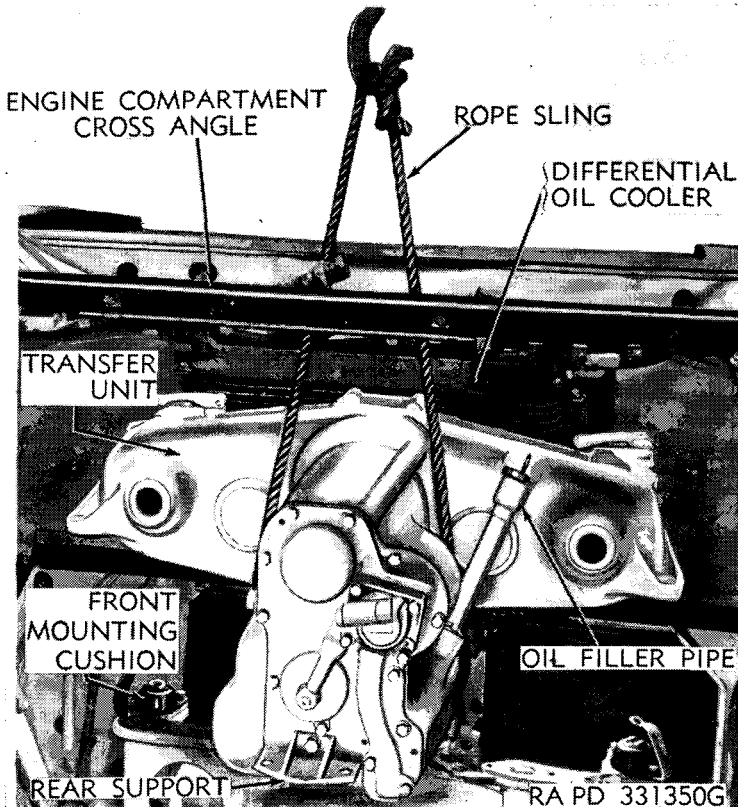

Figure 116. Removing transfer unit.
- (1) *Remove engines.* Refer to paragraph 97.
- (2) *Remove radiators.* Refer to paragraph 121.
- (3) *Remove lower radiator seal.* Remove four screws holding lower radiator seal to engine bulkhead. Lift out seal.
- (4) *Remove radiator center support.* Working from fighting compartment, remove two screws holding center radiator support to front of engine bulkhead. Remove four screws holding center radiator support to rear radiator support. Lift out support.
- (5) *Remove lower fire extinguisher lines.* Remove four clamps holding lines to hull floor. Disconnect lower center fire extinguisher lines at hull side wall connections and remove screws holding center bracket to hull floor.
- (6) *Remove throttle relay rods.* Disconnect and remove intermediate to rear throttle relay rod and rear relay as an assembly.
- (7) *Remove engine front support cushions.* Remove eight screws holding engine front support cushions to engine front support brackets. Remove cushions.
- (8) *Disconnect shifter shaft extensions.* Refer to paragraph 155d.
- (9) *Remove transfer unit.* Attach a rope sling around transfer unit as shown in figure 116. Attach chain hoist to rope sling and take up weight of transfer unit enough to clear rubber cushion supports. Remove the three transfer unit mounting screws. Raise transfer unit and slide toward rear of vehicle until propeller shaft yoke slides out of spline and shifter shaft extensions slide off shifter shafts. Raise transfer unit and remove from vehicle.
- (1) *Place transfer unit in vehicle.* Attach a rope sling around transfer unit, being sure that it is tied as short as possible (fig. 116), and connect chain hoist to unit. Lower unit into vehicle. Before lowering unit all the way into position, slide propeller shaft splined yoke into front end of transfer unit and also place the two shifter shaft extensions over the two shifter shafts. Slide transfer unit forward until it rests on the rubber cushion supports. Remove hoist and rope sling.
- (2) *Install mounting screws.* Install two front and one rear transfer unit mounting screws. Tighten securely.
- (3) *Connect and adjust linkage.* Refer to paragraph 155d.
- (4) *Install lower fire extinguisher line.* Lower the fire extinguisher line into position at rear of transfer unit. Install two screws holding center bracket to hull floor and connect